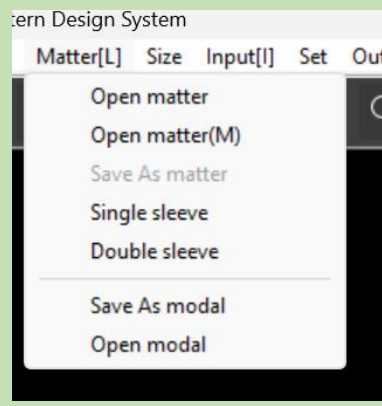

Figure 2-1
- 2. Matter: You can open parts and pattern libraries (as shown in Figure 2-1).